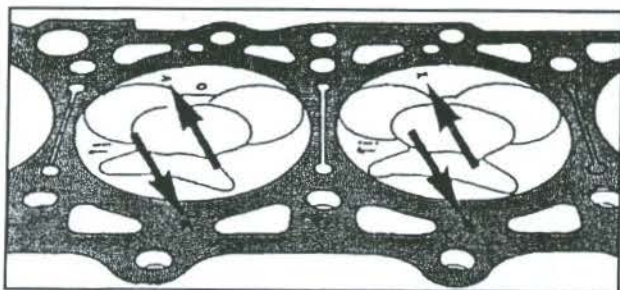

Fig. 1.29 - Identification (marking) of piston crown and cylinder block face with the group code letters.
- Pistons and cylinder bores are graded in three diameter classes within specified tolerance groups and marked with the letters A, X and B or 0, 1 and 2 (for the engine). The class number is stamped into the upper face of the cylinder block next to the particular cylinder bore, as shown in Fig. 1.29.